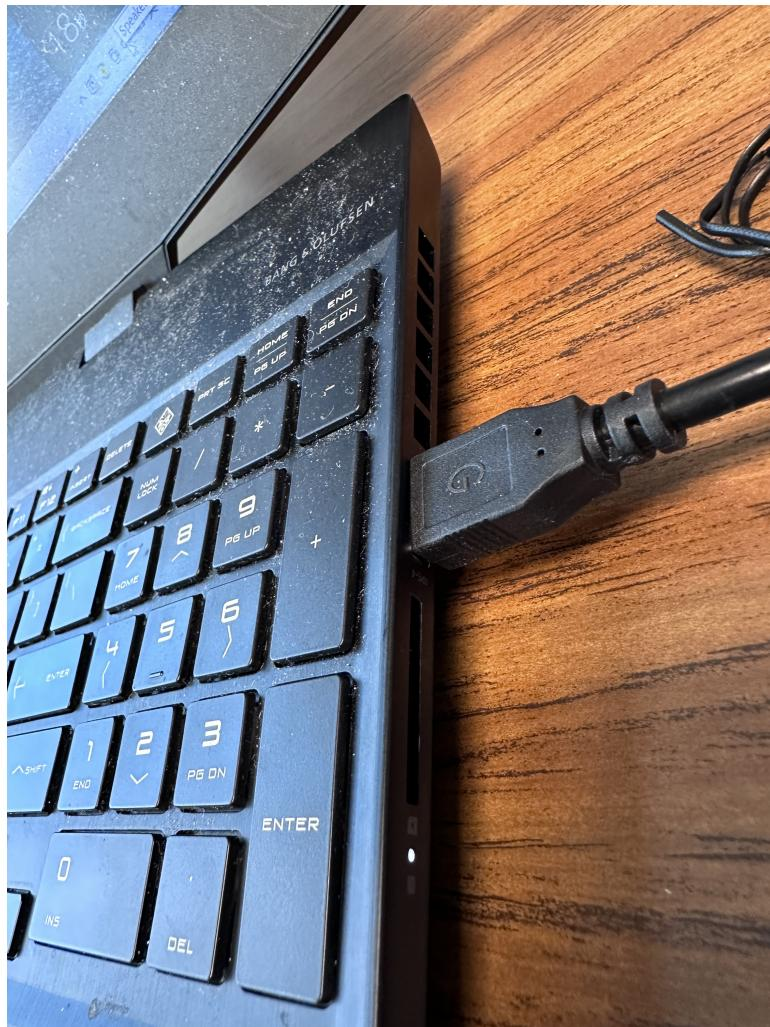

Figure 4: USB connection to PC
6. Plug into the USB port connected from the relay into the 'Port 3' of the PC (which is on the right side of the laptop). [Figure 4]